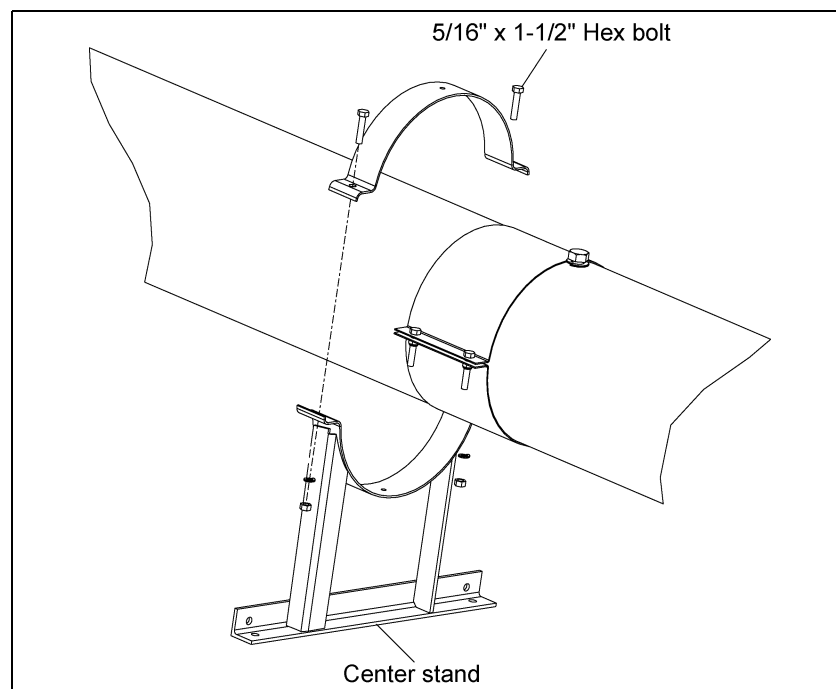

Figure 4U
- C. Install the remaining stand in the center of the tube. Placing the stand in the center of the tube will help minimize vibration in the system when the auger is running. (See Figure 4U.)